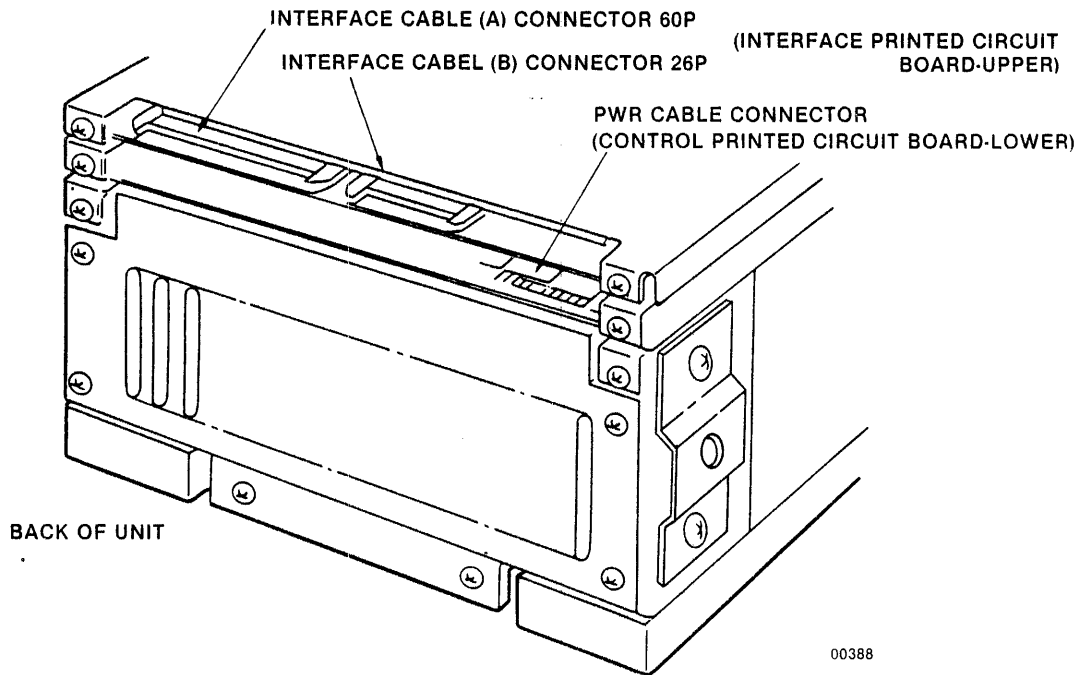

Figure 3-12 Mounting Positions of SMD Connectors
3.5.4. SMD Cabling: Figures 3-12 and 3-13 illustrate the Interface cabling (Interface cable A and B) to the 60 pin and 26 pin connectors of the Interface PCB on top and to the rear of the SMD. The POWER cable connector is also shown.